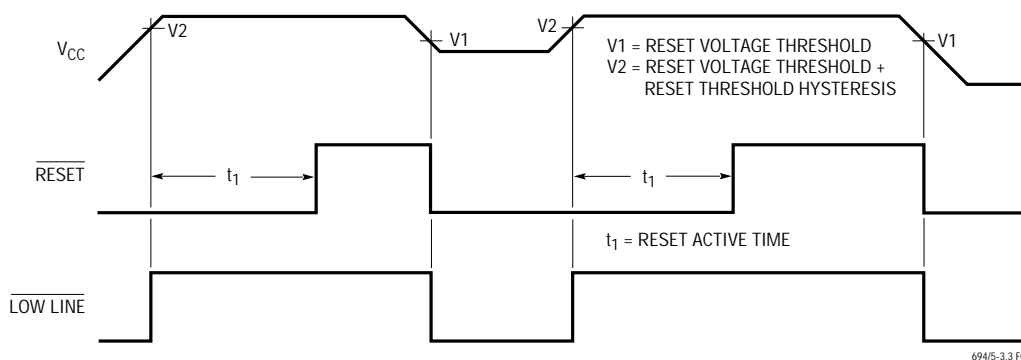

Figure 1. Reset Active Time
**LOW LINE:** Logic Output from Comparator C1. LOW LINE indicates a low line condition at the VCC input. When VCC falls below the reset voltage threshold (2.90V typically), LOW LINE goes low. As soon as VCC rises above the reset voltage threshold, LOW LINE returns high (see Figure 1). LOW LINE goes low when VCC drops below VBATT (see Table 1).
The LTC694-3.3/LTC695-3.3 use a bandgap voltage reference and a precision voltage comparator C1 to monitor the 3.3V supply input on  $V_{CC}$  (see Block Diagram). When  $V_{CC}$  falls below the reset voltage threshold, the  $\overline{\text{RESET}}$  output is forced to active low state. The reset voltage threshold accounts for a 10% variation on  $V_{CC}$ , so the  $\overline{\text{RESET}}$  output becomes active low when  $V_{CC}$  falls below 3.0V (2.9V typical). On power-up, the  $\overline{\text{RESET}}$  signal is held active low for a minimum of 140ms after reset voltage threshold is reached to allow the power supply and microprocessor to stabilize. The reset active time is adjustable on the LTC695-3.3. On power-down, the  $\overline{\text{RESET}}$  signal remains active low even with  $V_{CC}$  as low as 1V. This capability helps hold the microprocessor in stable shutdown condition. Figure 1 shows the timing diagram of the  $\overline{\text{RESET}}$  signal.